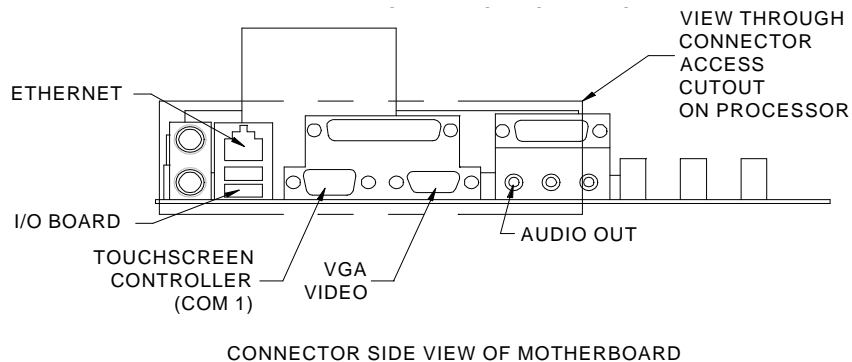

FIGURE 16 - MOTHERBOARD CONNECTIONS AS SEEN THROUGH PROCESSOR CUTOUT
3. Route the 9-pin serial cable from the terminal through the connector access cutout on the processor and connect it to the mating connector labeled "touchscreen controller" in Figure 16.
4. Route the 15-pin (high density DB, 3 rows of pins) VGA monitor signal cable from the terminal through the connector access cutout on the processor and connect it to the mating connector labeled "video" in Figure 16.